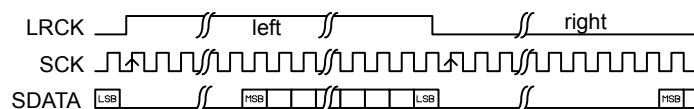

Figure 68: `CONFIG.ALIGN` set to right justified
- When using right-alignment, each half-frame ends with the LSB of the sample value. This is illustrated in Figure 68: `CONFIG.ALIGN` set to right justified on page 234.